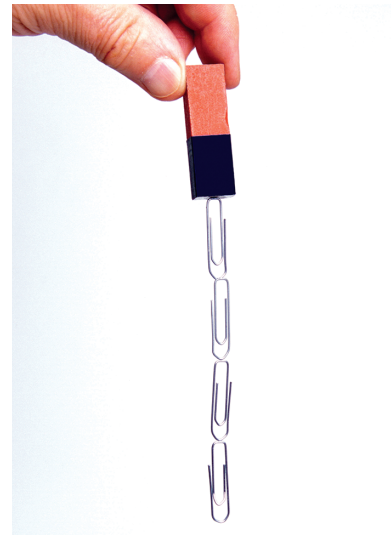

FIGURE 2.6.4a: Testing the strength of a magnet
1. Which method in Figures 2.6.4a and 2.6.4b is likely to provide the most reliable results?